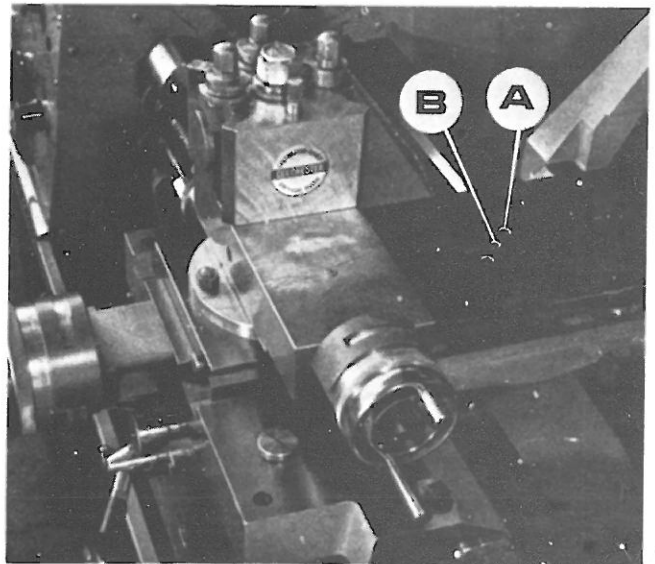

Fig 24
This is adjustable for elimination of slackness which may develop in service. Reduce backlash by loosening the rear caphead screw (A) shown in Fig. 24 then carefully screw in the centre screw (B) to adjust a wedge within the split nut. Make only slight alteration at a time and operate the cross-slide repeatedly through full travel to be sure of smooth action.
A large-bore pipe returns oil from the bottom of the headstock into the tank. Ensure that the oil level in the tank is kept topped up to the mark on the filler-cap dipstick, see Fig. 24. Check oil level weekly and change the oil every year using Shell Tellus Oil 27 or equivalent grade (see below). Tank capacity is 2½ gallons.